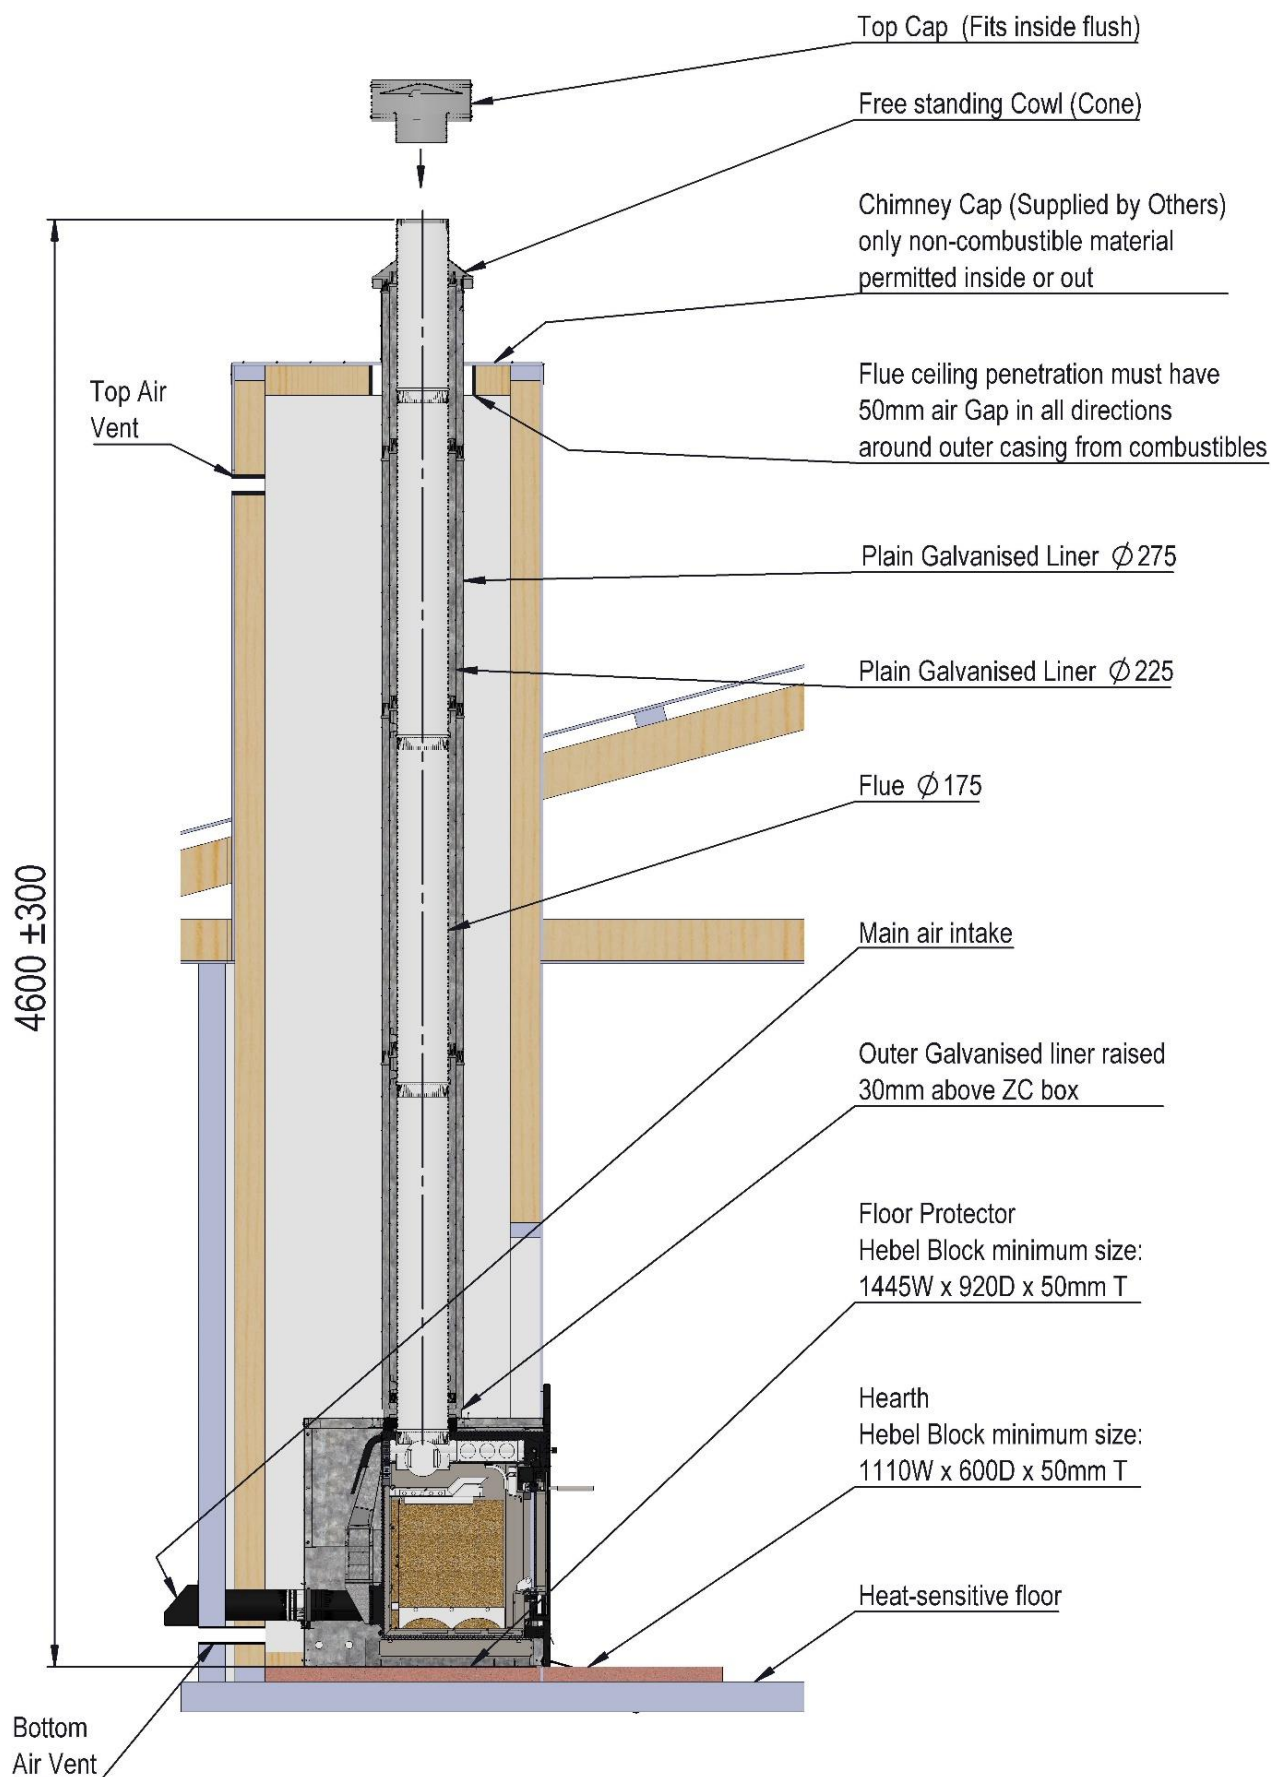

Fig. 3
- For standard flue installations (Fig. 3); if any support is required under the chimney cap, it should be constructed of non-combustible materials only.
J. Typical Inbuilt (ZC) Flue Installation (Fig. 3)